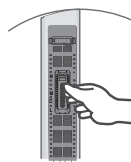

Fig 1
1. Push the upper part of the Lint filter and pull out (Fig. 1)